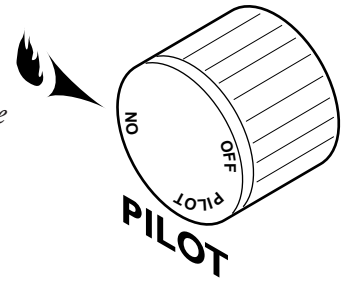

Figure 42 - On Position
Depress and turn the knob counterclockwise  to the “ON” position. See Figure 42. It will take less than four (4) seconds for the burner to ignite.